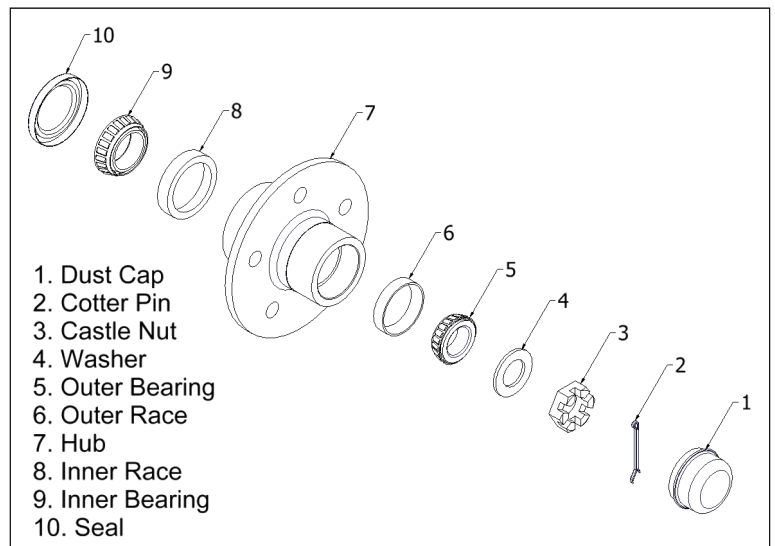

**Figure 4-2 Lift Points**
- Raise equipment with suitable maintenance jack (see Figure 4-2, arrow A for jack placement) high enough to remove wheel assembly.
- Place approved jack stands under front axle (see Figure 4-2, arrow B for stand placement).
To remove the entire Front Undercarriage assembly, the equipment must have the front end raised. See Figure 4-2 for lift points.
- Raise equipment with suitable maintenance jack (see Figure 4-2 arrow A for jack placement) to allow four inches of space between the wheels and ground.
- Place cribbing under tank skids ( see Figure 4-2, reference arrows C) to safely support the equipment.
To remove wheel assembly, the equipment must have the back end raised and placed on approved jack stands. Points A and B are similar on both the rear and front axles. (See Figure 4-2)
- Raise equipment with suitable maintenance jack high enough to remove wheel assembly. (See Figure 4-2, arrow A for jack placement) .
- Place approved jack stands under rear axle (see Figure 4-2, arrow B for stand placement).